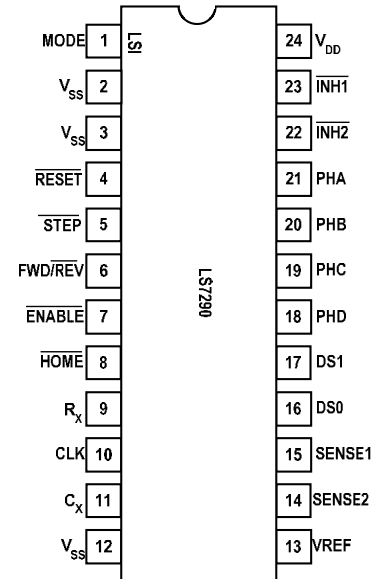

FIGURE 1.
- LS7290 (DIP), LS7290-S (SOIC), LS7290-TS (TSSOP) – See Figure 1.